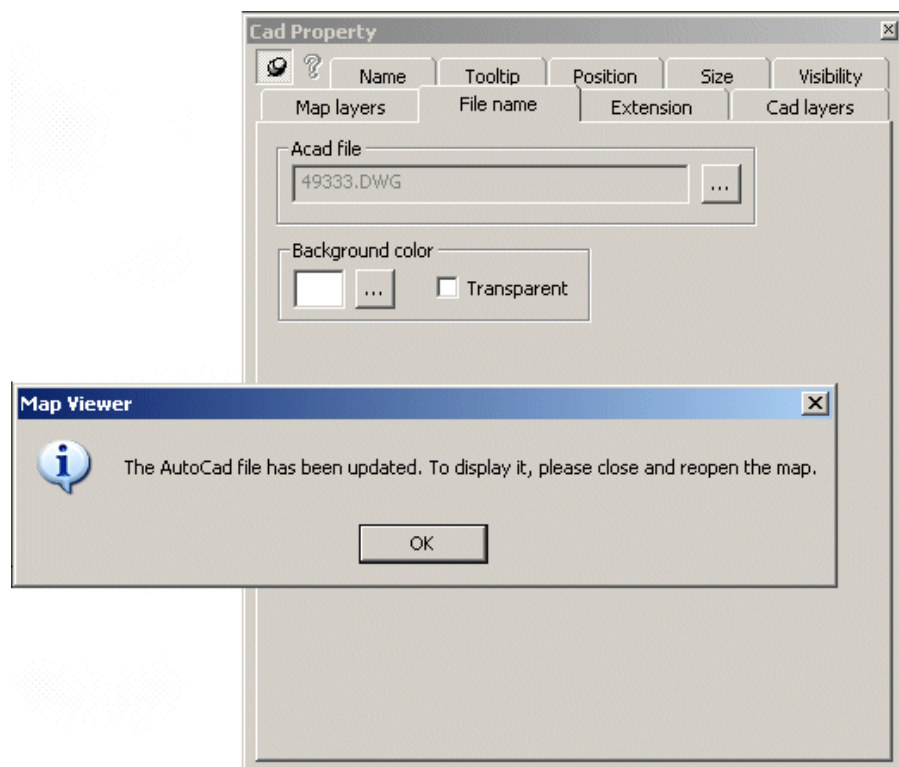

Fig. 17 CAD Property window – File name tab
*A message displays informing you the AutoCAD file has been updated, and the action to take to display it (see Fig. 17).*